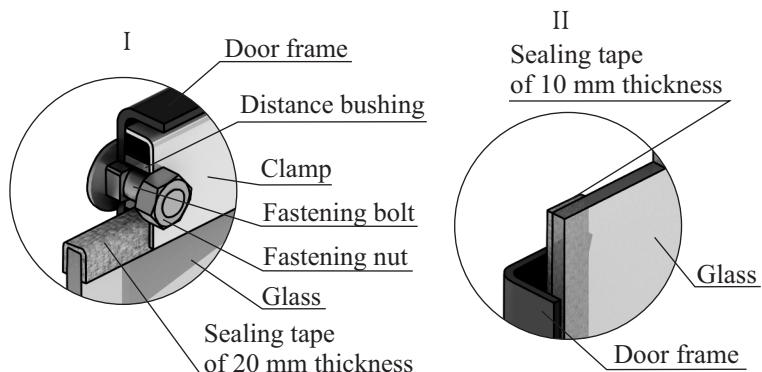

Figure 9. Fastening of translucent screen of the «Vitra» model door
1. Unscrew two nuts fixing the clamp (fig.9.I), and disassemble it and distance bushings.
3. Take new glass and if it doesn't have thread sealing tape stick them: tape of 20 mm in width is stuck from the top and from below the glass, in a «Π» shape (fig. 9.I), tape of 10 mm in width is stuck vertically, along the lateral sides of the glass (fig. 9.II).
4. Insert the glass into the stop, at that the tape stuck from the lateral sides (vertical) shall be pressed between the glass and the door frame (fig. 9.II).
ATTENTION! Nuts fastening the clamp are screwed to the mounting bolts through the remote plugs (Figure 9.I).